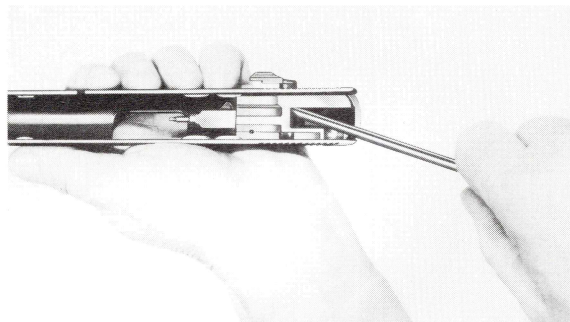

Fig. 10
- Remove the safety catch (3) using an assembly mandrel to push the firing pin (18) forwards, at the same time pushing out the safety catch with a sideways motion of the mandrel and removing it (Fig. 10).